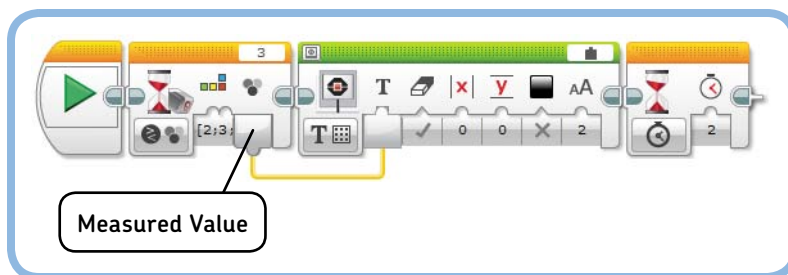

Figure 14-21: The WireWait program
Recall that a Wait block pauses the program until a sensor reaches a certain trigger or threshold value. The *Measured Value* output gives you the measurement that made the block stop waiting. For example, the *WireWait* program (see Figure 14-21) waits for the Color Sensor to see either blue (2), green (3), yellow (4), or red (5), after which it displays the last measurement on the screen.